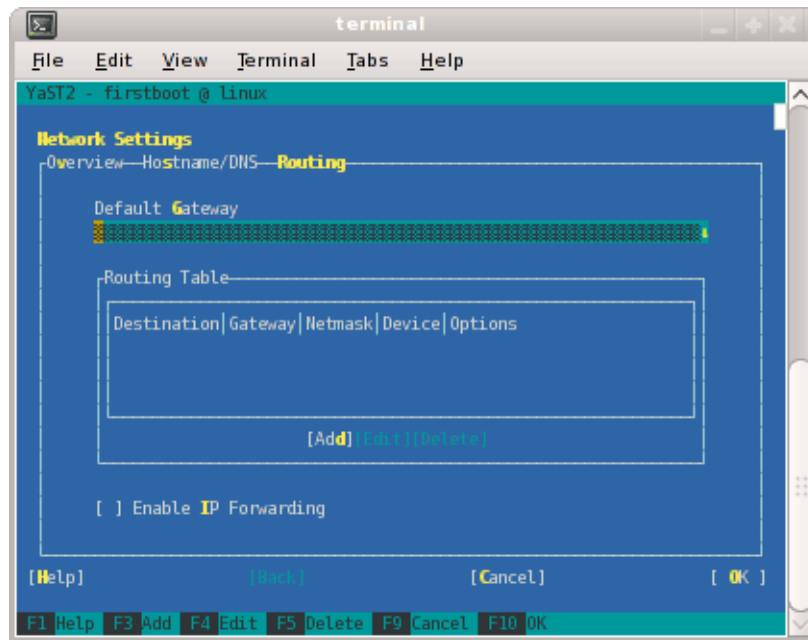

Figure 2-15 Network Settings Routing Screen
8. Select **Routing** shown in Figure 2-15 on page 52 and enter your house/public network default router information there. Now you can select **OK**.